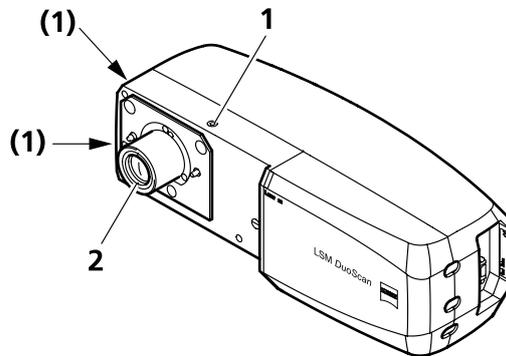

Fig. 1-14 Fastening screws and connections on LSM DuoScan
- Use the three fastening screws (Fig. 1-14/1 and 2) to attach or detach the LSM DuoScan to or from the microscope stand.